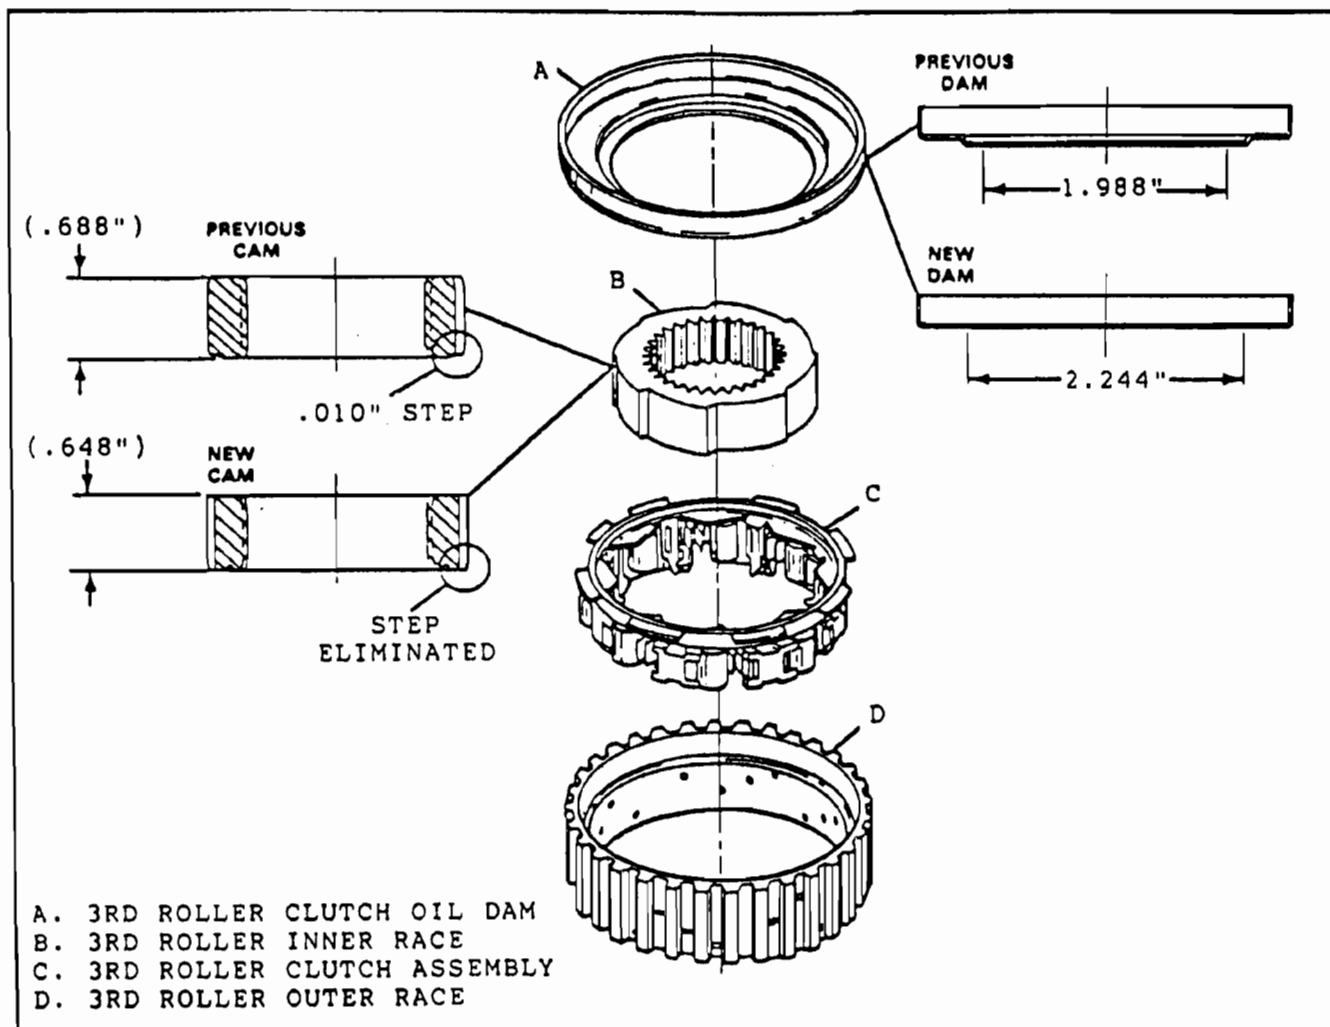

Figure 49
- (4) 3RD ROLLER CLUTCH LUBE DAM - The inside diameter has been increased by .256" to accomodate the larger diameter new bearing, and the lip on the lube dam eliminated for increased lube oil flow to the 3rd roller assembly (See Figure 49).
- (5) 3RD ROLLER CLUTCH INNER RACE - Has been machined .040" thinner to accomodate the increased thickness of the new bearing assembly (See Figure 49).